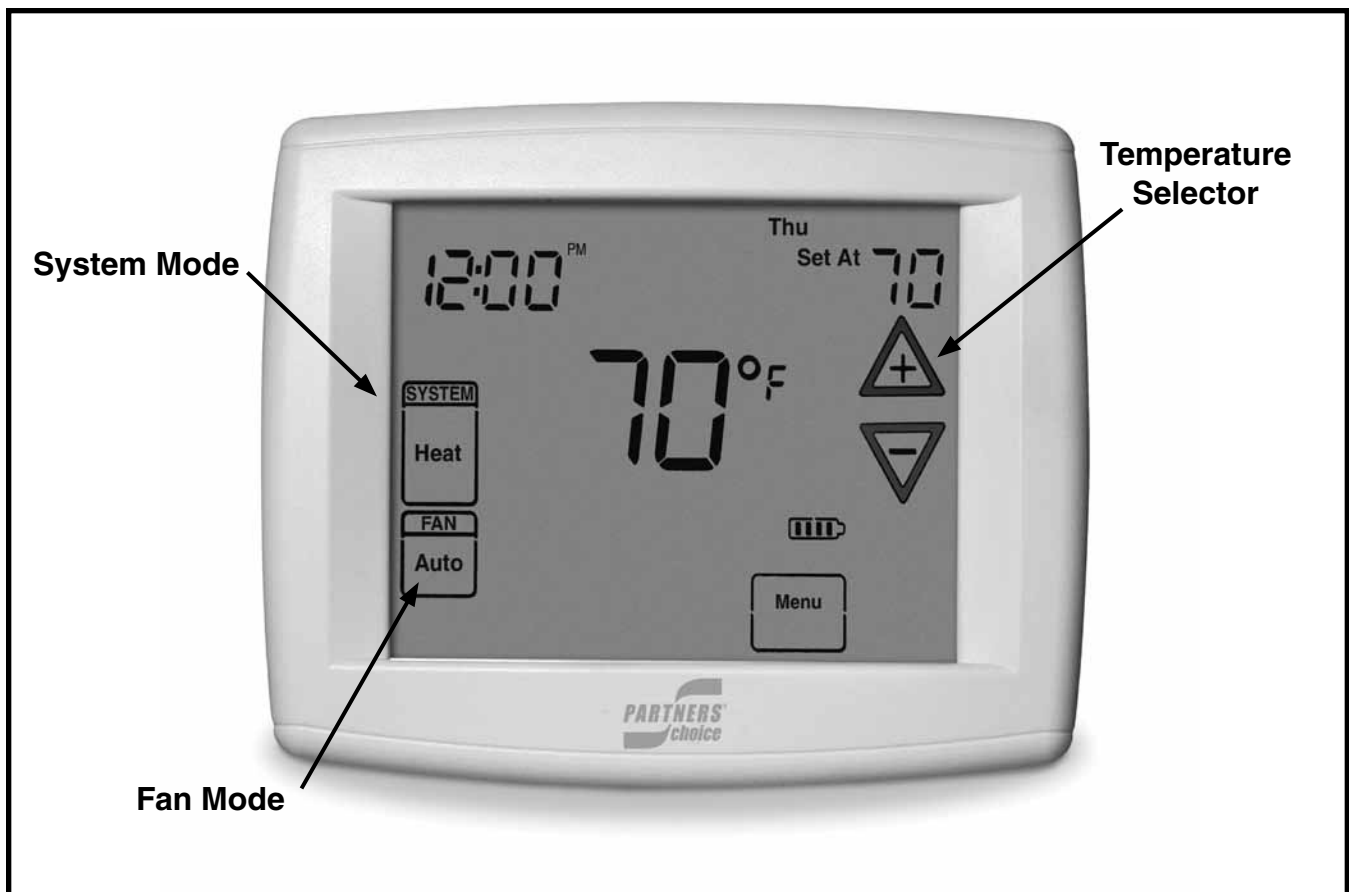

Figure 1. Two-Stage Digital Thermostat
1. Set the thermostat system mode to COOL and the thermostat fan mode to AUTO. See Figure 1.
1. Set the thermostat system mode to Heat and the thermostat fan mode to AUTO. See Figure 1.
Set the thermostat fan mode from AUTO to ON (see Figure 1). The indoor blower will start immediately and
Set the thermostat system mode to OFF (see Figure 1) and the thermostat fan mode to AUTO. **NOTE:** The system will not operate, regardless of the thermostat temperature selector's setting.